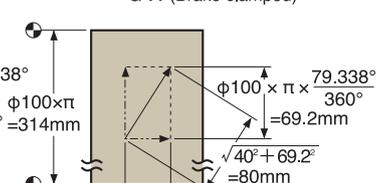

Fig. 2
1. Make a development elevation like Fig.2 to calculate the vector.
2. Give feed in lead cutting (cutting feed from ① to ②)....e.g. 200 mm/min (depend on work piece materials).